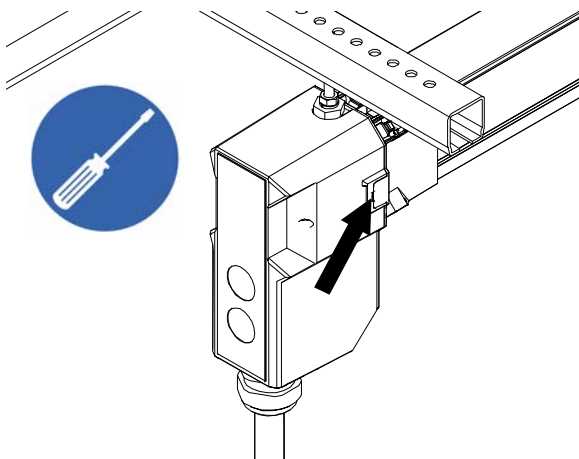

Fig. 121: Disengage wide clips
- Disengage the wide clips on the side of the end feed (2x) with a slotted screwdriver (see Fig. 121).